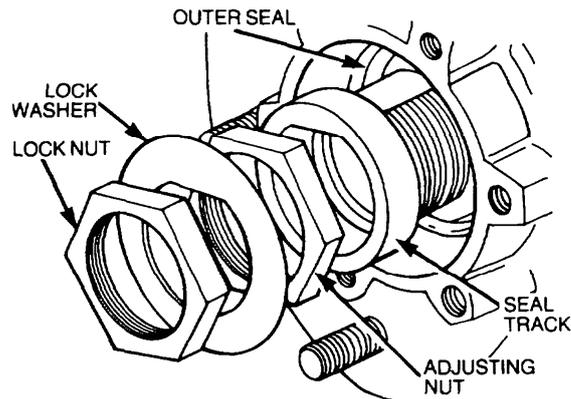

Figure 101 Hub Retaining Nuts
- l. Remove the lock washer, adjusting nut and seal track (Figure 101). Discard the lock washer.